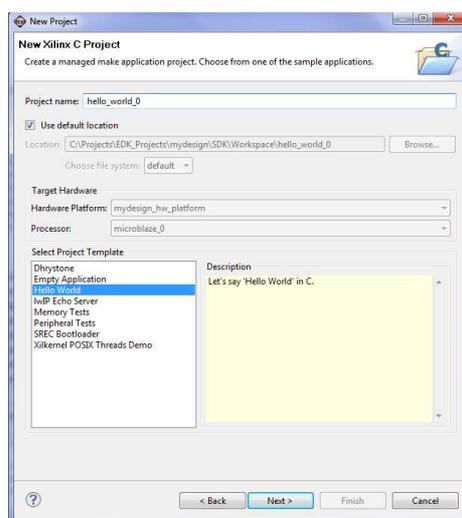

Figure 24. New Project (Step 5)
A new window will appear “Board Support Package Settings” which will enable you to set certain parameters as seen in **Figure 24**.
**Step 7:** A new screen of the New Xilinx C Project will appear as shown in **Figure 24**. This screen allows you to either “Create a new Board Support Package project” or to “Target an existing Board Support Package”. We will choose “Target an existing Board Support Package” which is the standalone\_bsp\_p (OS:standalone) which we created in the previous step. **Press Finish.**